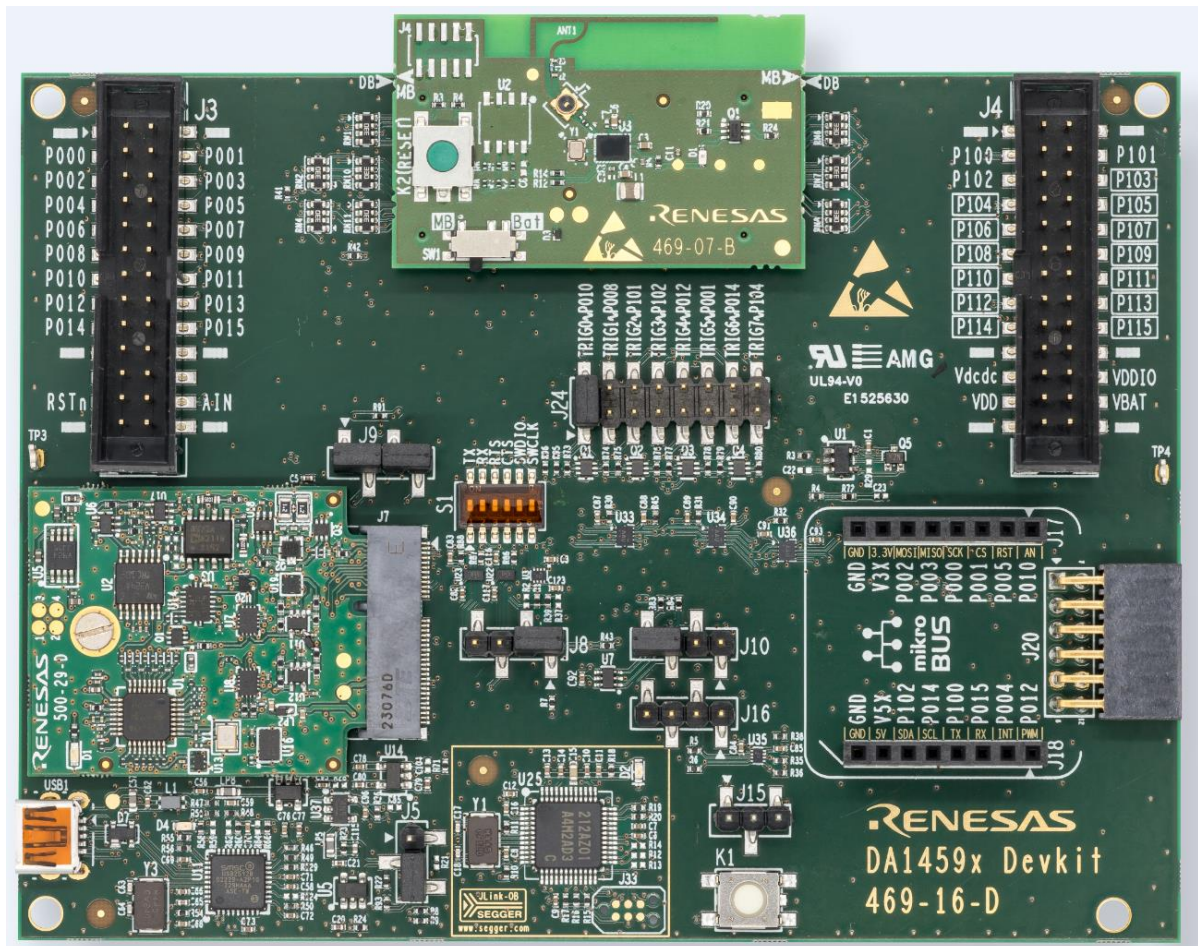

Figure 1. DA1459x Pro Devkit with Pro-MB and the Pro-DB
This document describes the hardware of DA1459x Pro development kit (DK). The DA1459x Pro DK is available as a motherboard, two variants of a daughterboard (FCQFN52/WLCSP39) and the power measurement module PMM2, Figure 1.